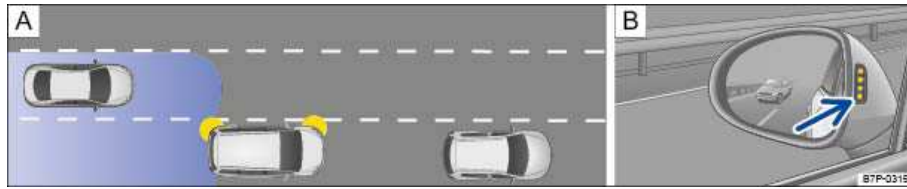
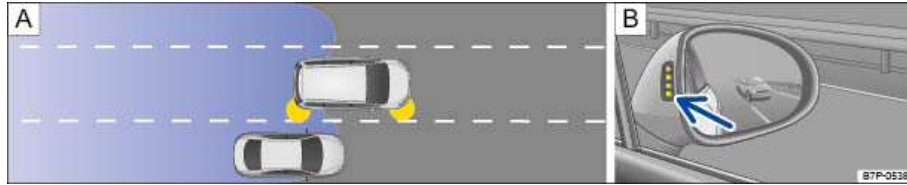

Fig. 282 Driving with Side Assist: A: Moving to another lane with rear traffic. B: Side Assist indicator lights in the left outside mirror.
Fig. 283 Driving with Side Assist: A: Passing another vehicle and moving to the right lane. B: Side Assist indicator lights in the right outside mirror.
While driving Side Assist can detect and indicate other vehicles in the outside mirrors ⇒ fig. 282 \(B\) and ⇒ fig. 283 \(B\) in the following situations:
- When being passed by another vehicle or moving to another lane with rear traffic approaching your vehicle ⇒ fig. 282 \(A\).
- When passing another vehicle ⇒ fig. 283 \(A\), with a speed difference of up to 9 mph (15 km/h). When passing another vehicle faster than 9 mph (15 km/h), the indicator lights will not light up.